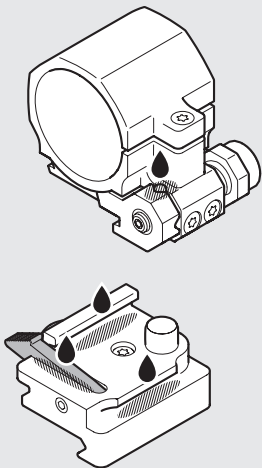

Fig. 7 Apply a small amount of weapon oil to surfaces
Remove FlipMount top (2) from the base (3) (see 2.2) and put a small amount of weapon oil on surfaces highlighted in Fig. 7 when performing preventive maintenance on the weapon.